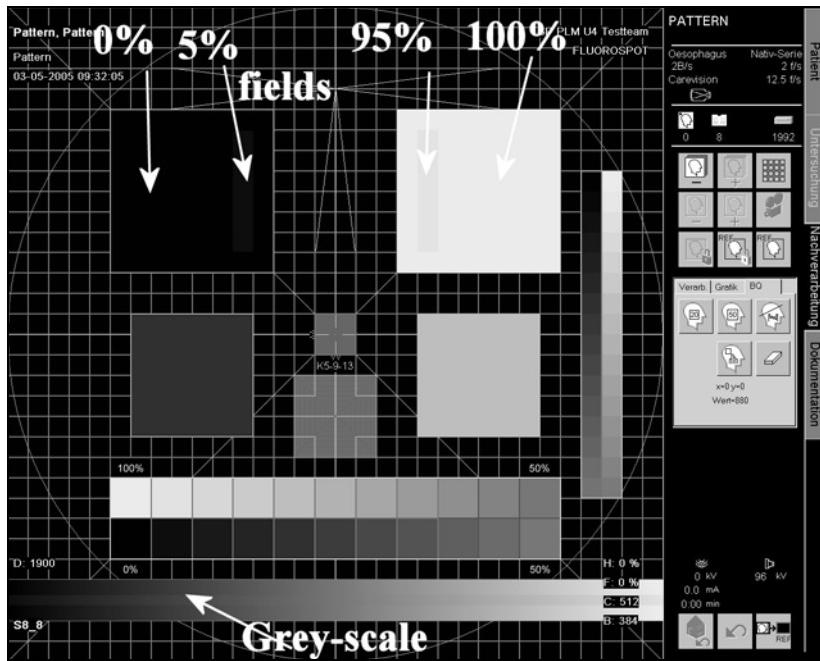

Fig. 2
- Select the test image "S8_8" (Fig. 2).